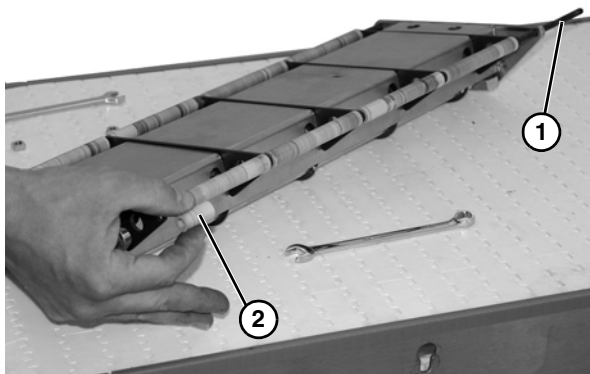

Figure 32
4. Remove rod (**Figure 32, item 1**) and rollers (**Figure 32, item 2**).